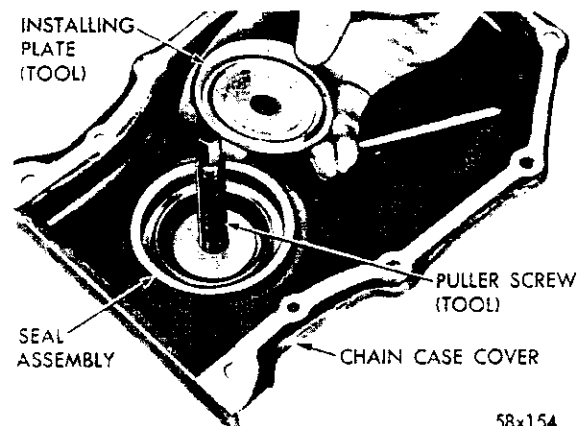

Fig. 29—Positioning Installer Plate on New Seal
(3) Place the seal in the cover opening, with neoprene down. Place the seal installing plate into the new seal, with protective recess toward lip of seal retainer (Figure 29).